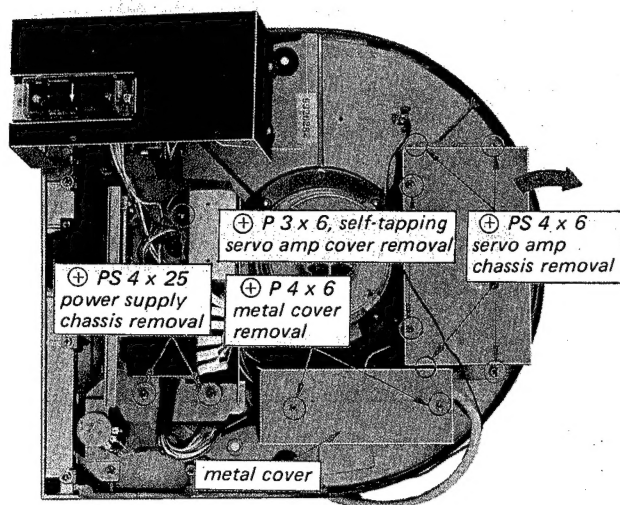

Fig. 2-5. Bottom view
2. Remove the four screws (⊕ PS 4 x 6) securing the chassis to the turntable base as shown in Fig. 2-5. This frees the chassis.
2. Remove the two self-tapping screws (⊕ P 3 x 6) securing the servo amplifier cover as shown in Fig. 2-5, and then slide it in the direction shown by the arrow as illustrated. This frees the cover.
3. Remove the three screws (⊕ PS 4 x 25) securing the chassis to the turntable base or the bracket, as shown in Fig. 2-5. This frees the power supply chassis.
2. Remove the two self-tapping screws (⊕ P 4 x 6) securing the metal cover over the terminal strip as shown in Fig. 2-5.